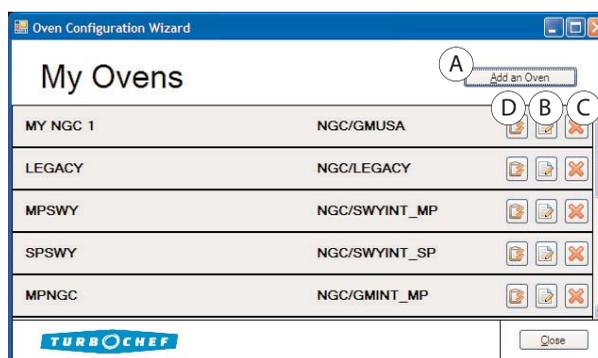

Figure 9: My Ovens
2. From the **My Ovens** screen, click **Add an Oven** (Figure 9, Item A).